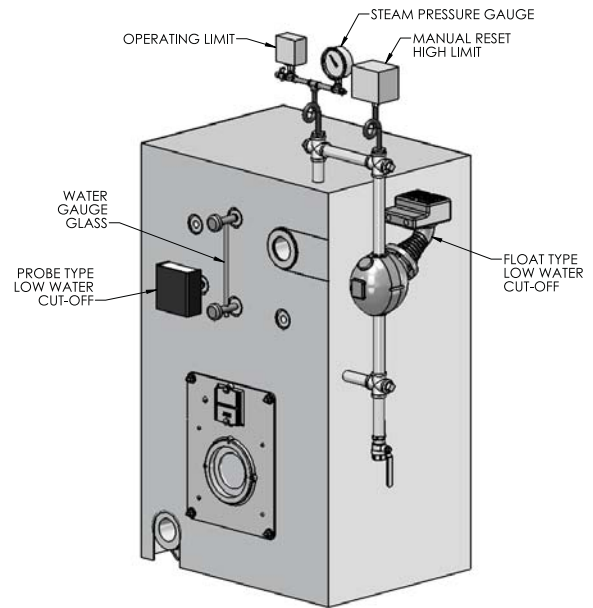
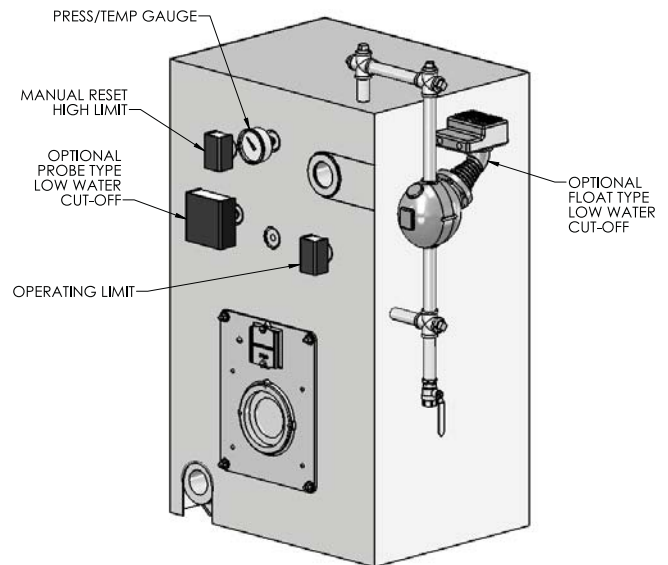

Figure 3.16: Steam Boiler Control Locations
Figure 3.17: Water Boiler Control Locations
- Figure 3.16 shows a typical control configuration for a steam boiler and Figure 3.17 shows a typical control configuration for a water boiler.
a) Steam Boilers: See Figure 3.16 for typical control locations for steam boilers. Additional limit and firing rate controls can be added to the 3/4" NPT piped header.
b) Water Boilers: See Figure 3.17 for typical control locations for water boilers. Additional limit and firing rate controls can be added to the boiler supply piping.